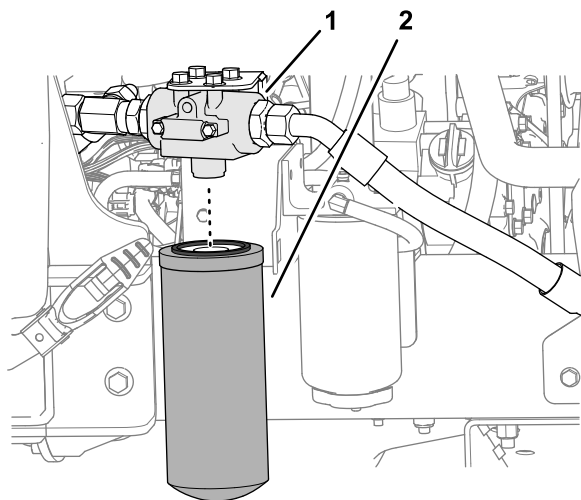

Figure 71
3. At the left side of the machine, clean the area around the filter head and place a drain pan under the filter (Figure 71).
4. Remove the return filter (Figure 71).
6. Assemble the filter to the filter head, and tighten the filter by hand until the gasket contacts the mounting surface, then rotate it an additional 1/2 turn (Figure 71).